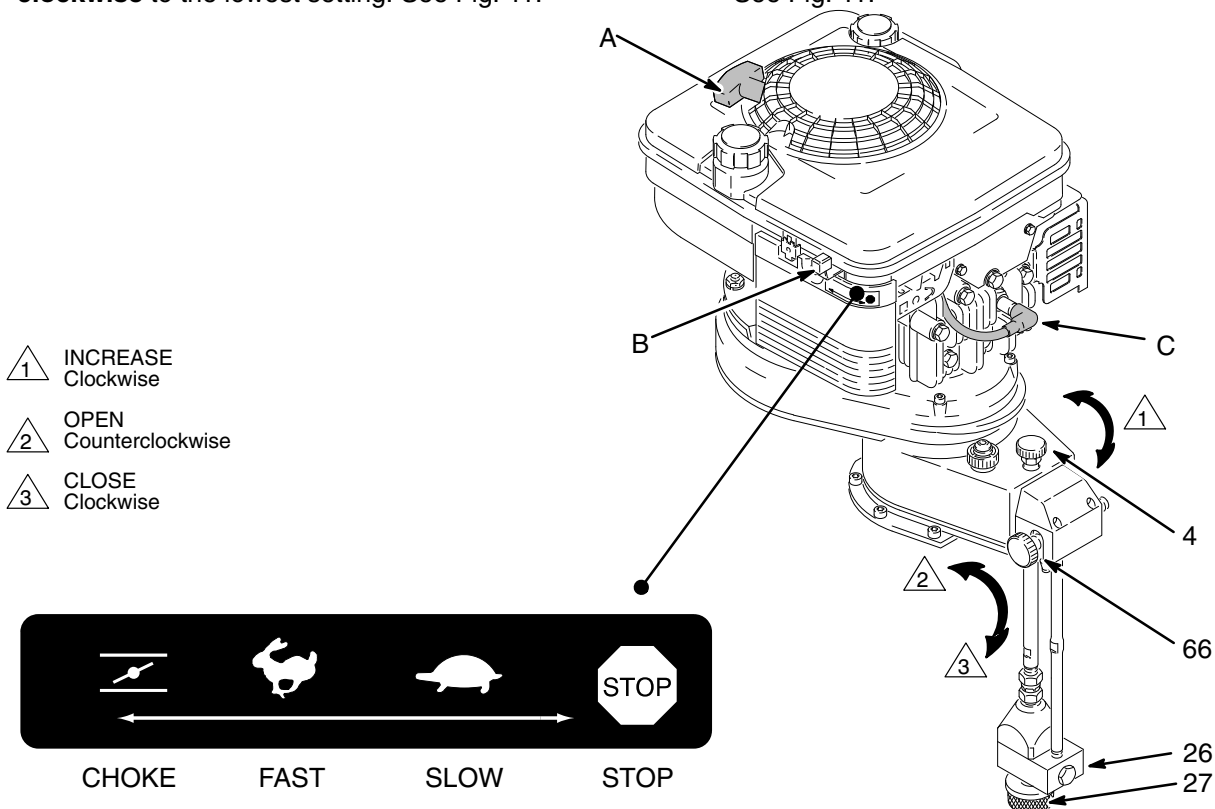

Fig. 11
1. Do not place the pump (26) in the pail yet.
2. Be sure the spark plug wire (C) is firmly connected to the spark plug. See Fig. 11.
3. Open the bypass valve (66) ONE turn **counter-clockwise**. Turn the pressure control (4) **counter-clockwise** to the lowest setting. See Fig. 11.
4. Put the control lever in the CHOKE position for a cold startup. For restarting a warm engine, put the control lever in the FAST position. See Fig. 11.
5. Hold the sprayer frame with one hand. Grasp the starter rope (A) firmly and pull it out rapidly and smoothly. Continue holding the rope while it returns. Repeat until the engine starts. See Fig. 11.
6. Remove the inlet strainer (27) and place your hand over the inlet valve (26) to be sure it is drawing a vacuum. See Fig. 11.